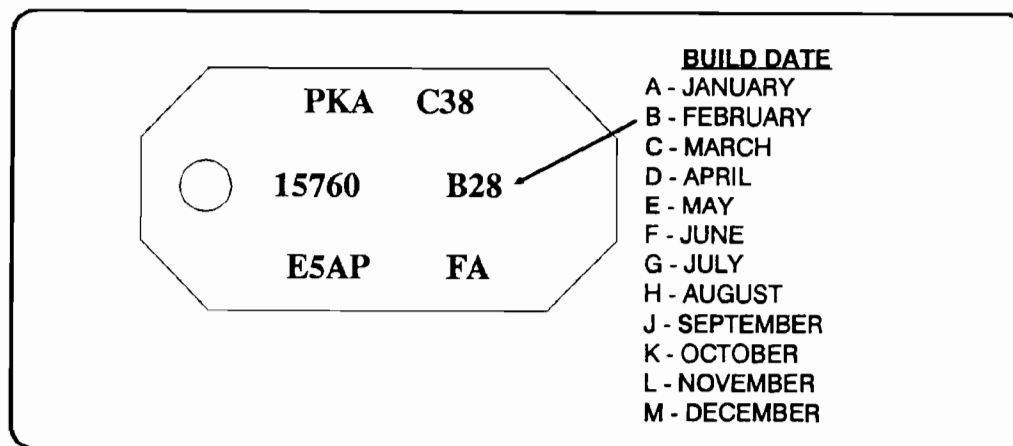

Figure 37
- Fits 1989 canender year build dates used in 1989 and 1990 models C-31 thru J-4 (See Figure 37). Consists of 1 valve body gasket, 3-4 shuttle valve, T.V. spring and separator plate. Used to address a concern of a T.V. buzz, a slide 3-4 shift or premature failure of forward or direct clutch, and/or overdrive band